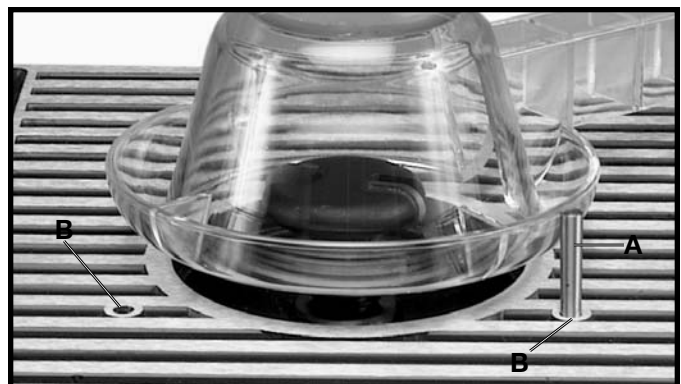

Fig. 30
A starting pin (A) Fig. 30, is supplied with your Router/Shaper and is used to support the workpiece at the start of the cut when using the Router/Shaper without the fence. The starting pin can be inserted into either one of the two holes (B) provided in the table.